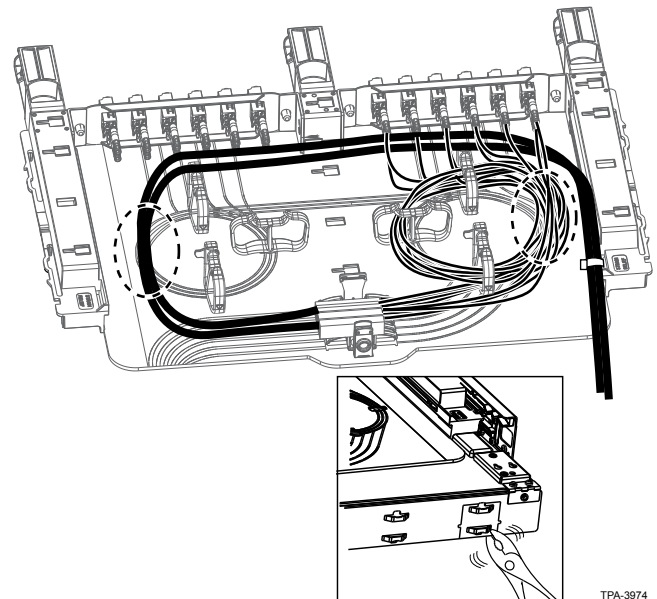

Figure 16
- Step 1:** Open the rear door. Firmly grasp door to prevent bending it and, with a pair of pliers, remove the knockout where the cable will enter the housing (Figure 16).